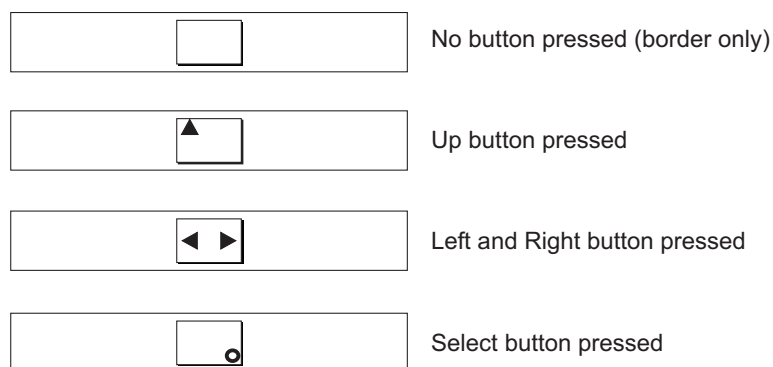

Figure 84. Front panel display when push buttons are pressed
3. Press the up, down, left, and right buttons to verify that they are working. Figure 84 shows four examples of what the front panel should display when you press the buttons. When you have finished testing the buttons, press and hold the select button for five seconds in order to exit the test.